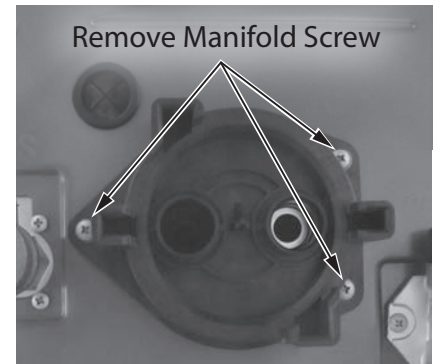

Figure 248 - Remove manifold screws
- 16** Locate the three (3) screws securing the cartridge manifold to the underside of the water heater cabinet as shown in Figure 248. Use a Phillips screwdriver to remove screws. Place screws aside in a safe place for reinstallation.